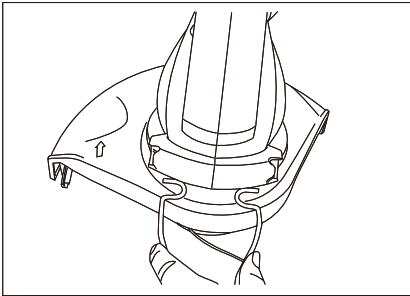

Fig 4
1. assemble the plant protector into the slot (Fig 4).